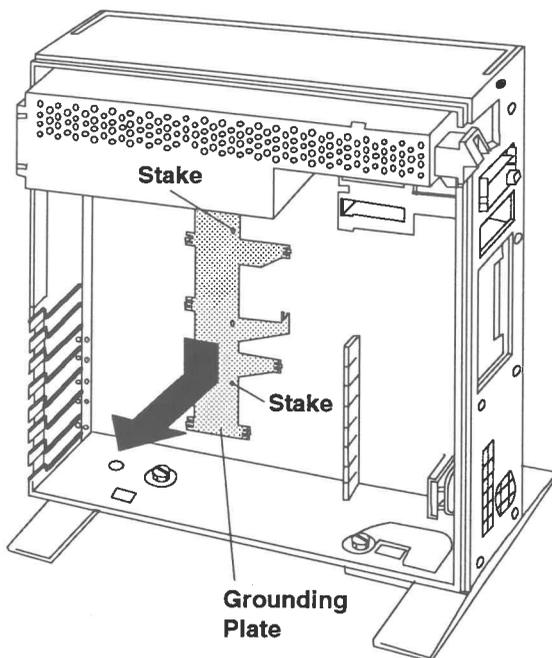

Figure 2-11 Grounding Plate Removal
16. After you have removed the original system board, locate the grounding plate affixed to the chassis, below the power supply (see Figure 2-11).
17. The grounding plate is held to the chassis by heat staking. The location of the stakes are shown in Figure 2-11. Using a standard blade screwdriver, pry the grounding plate away from the chassis. Slide the grounding plate down from beneath the power supply and remove it from the chassis. The grounding plate can be discarded.